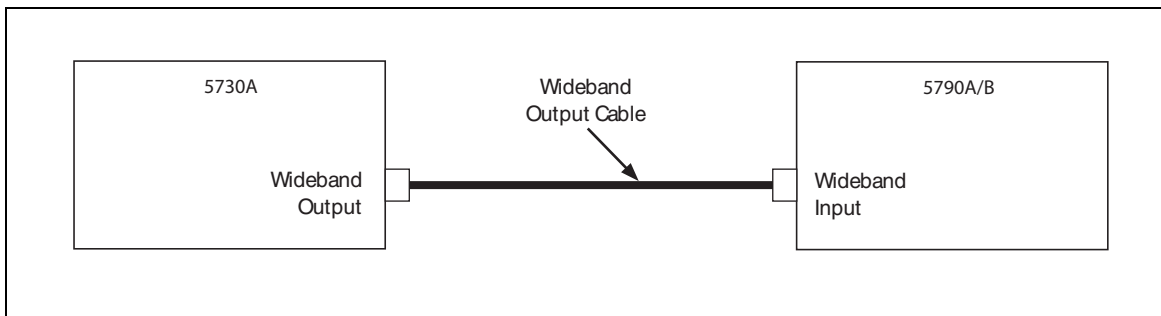

Figure 22. Wideband Flatness Test Setup
1. Connect the equipment as shown in Figure 22. Note that the Calibrator wideband cable is connected to the 5790A/B directly, the termination is not used.